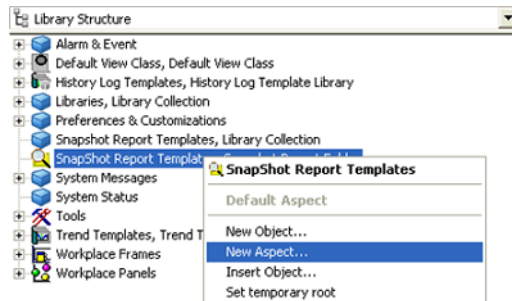

Figure 3. Create Snapshot Report template
1. Right-click on the Snapshot Report template folder where a new template needs to be created and select New Aspect as shown in Figure 3.